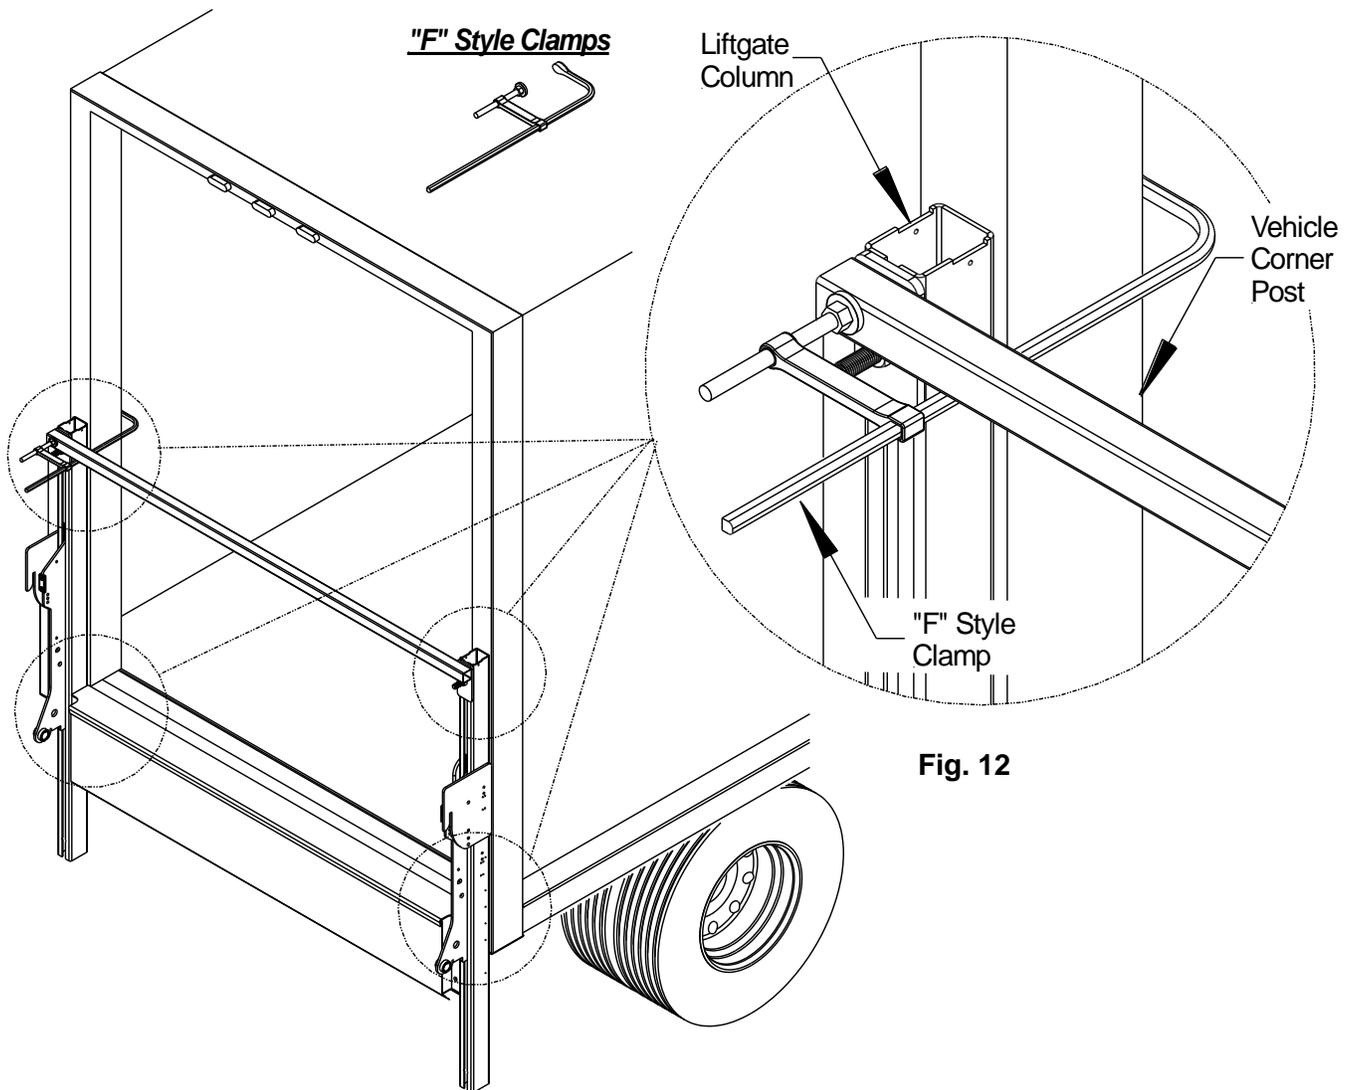

Fig. 12
8. **Clamping Liftgate:** After centering the liftgate, use four (4) "F" style clamps, two on top and two at bottom, to secure the liftgate flush against the vehicle, **Fig.12**. Confrim all mounting dimensions are correct, double check the floor and traverse is flush with the sill, and the columns are flush to the vehicle.